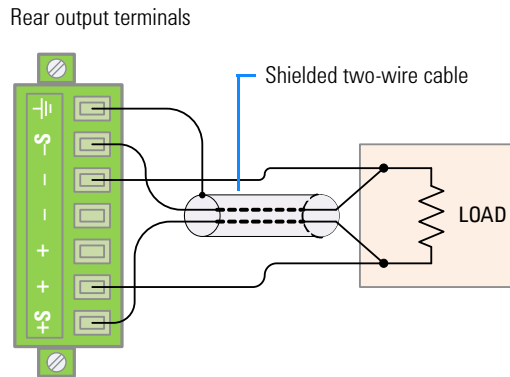

Figure 3-1 Remote sensing connections
- 4 Loosen the top screws with a slotted screw driver and connect the rear output terminal block sensing (S+ and S-) and output (+ and -) terminals to the load as shown in Figure 3-1 using a shielded two-wire cable.
The sensing outputs (S+ and S-) must not be left unconnected. It must be connected locally (Figure 3-2) or remotely (Figure 3-1).
- 2 Remove the connections between the U3606B sensing (S+ and S-) and output (+ and -) terminals. Using a shielded two-wire cable, connect the U3606B sensing terminals to the load as shown in **Figure 3-1**. Observe the polarity when connecting the sensing leads to the load.